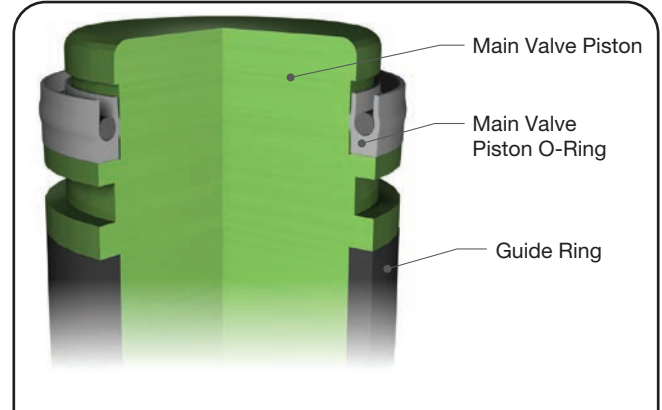

Figure 28: Main Valve Piston
10. For Teflon seals make sure of the integrity of the Teflon seal and seal spring. Install Disc Seal on Disc outside diameter on the opposite end of the disc seat as shown in Figure 28.
If an O-Ring seal is used, it is installed in the groove between where the Guide Ring is installed and where a Spring Energized Seal would be installed (Figure 28).